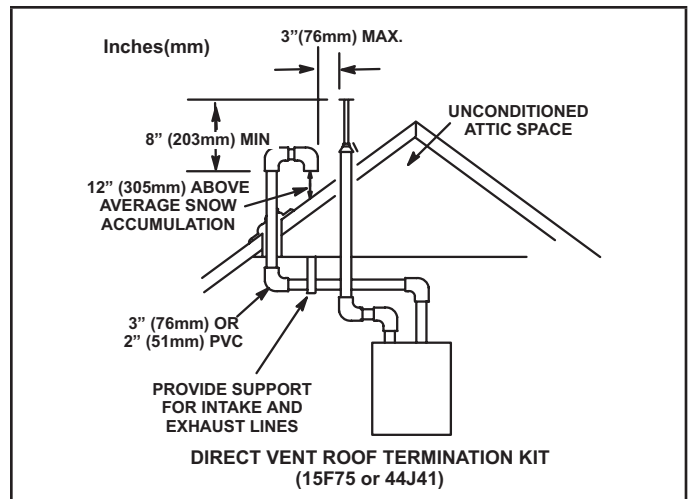

FIGURE 36
Intake and exhaust pipes may be routed either horizontally through an outside wall or vertically through the roof. In attic or closet installations, vertical termination through the roof is preferred. FIGURE 36 through FIGURE 43 show typical terminations.
- 3 - On roof terminations, the intake piping should terminate straight down using two 90° elbows (FIGURE 36).